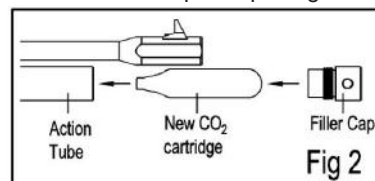

Fig 2
- Insert a new CO₂ cartridge into the action tube first. (Fig 2)